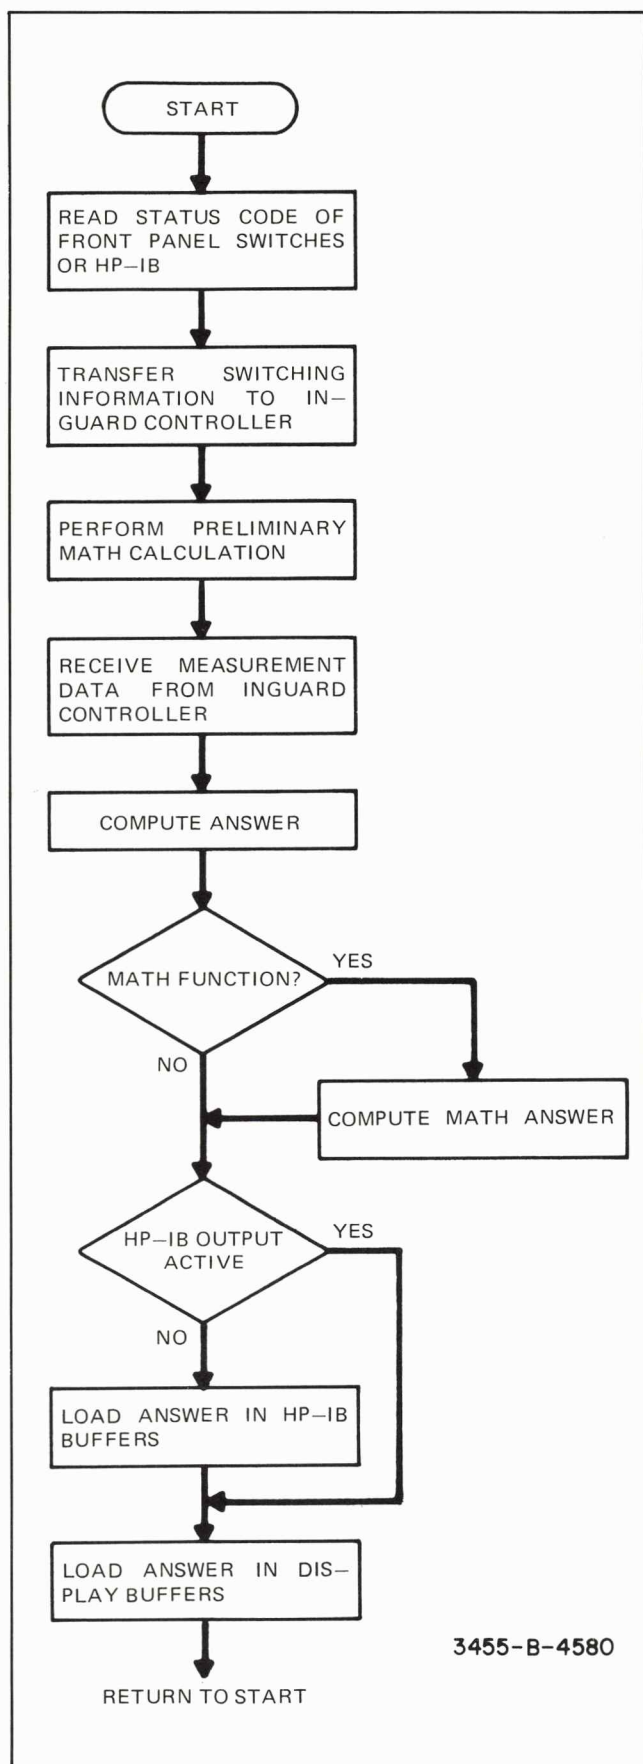

Figure 8-37. Simplified Main Controller Flowchart.
communication between the front panel, HP-IB interface, display and inguard section of the multimeter and to perform mathematical calculations to correct measurement data and provide measurement scaling or percent error readings. The following is an explanation of the operations performed by the main controller as illustrated in Figure 8-37.
- c. During the time the inguard controller is setting the switches and making the required measurements, the main controller computes the constants used to correct the measurement data. This step is shown in Figure 8-37 as “perform preliminary math calculations” and involves combining the offset error and full scale error readings, relevant to the measurement being made, into two constants.